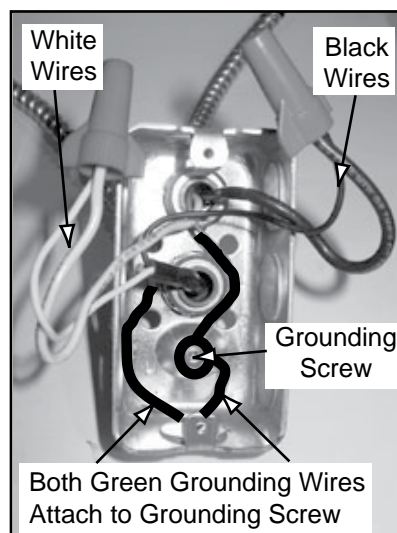

Figure 34.2 - Metal Outlet Box
6. Ensure the 2 green grounding wires are securely attached to the grounding screw. **Figure 34.2.**